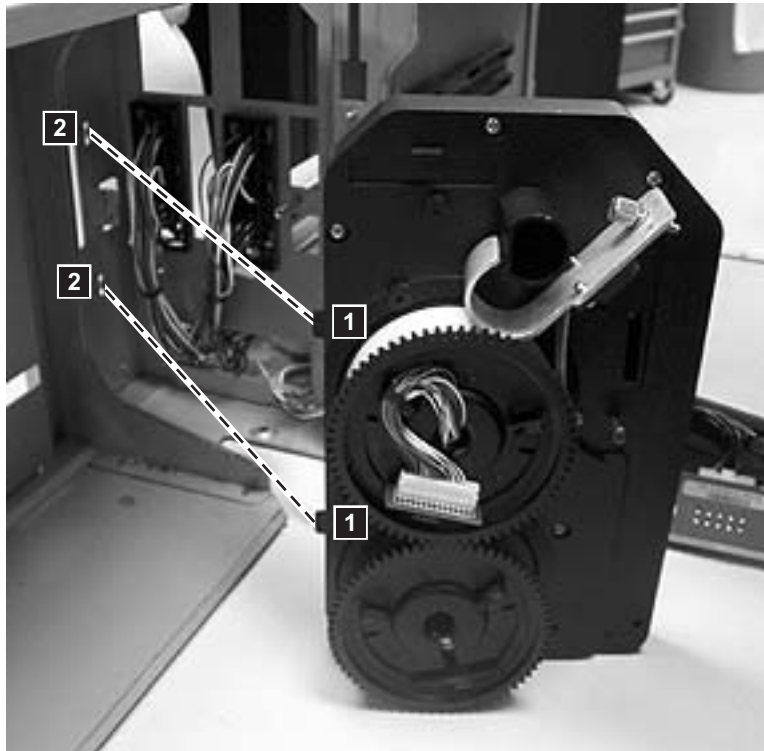

Figure 8-57. Cable Spool Assembly tabs
2. Carefully insert the plastic tabs (**1** in Figure 8-57 on page 8-59) on the Cable Spool Assembly into the slots (**2** in Figure 8-57 on page 8-59) in the enclosure sidewall.